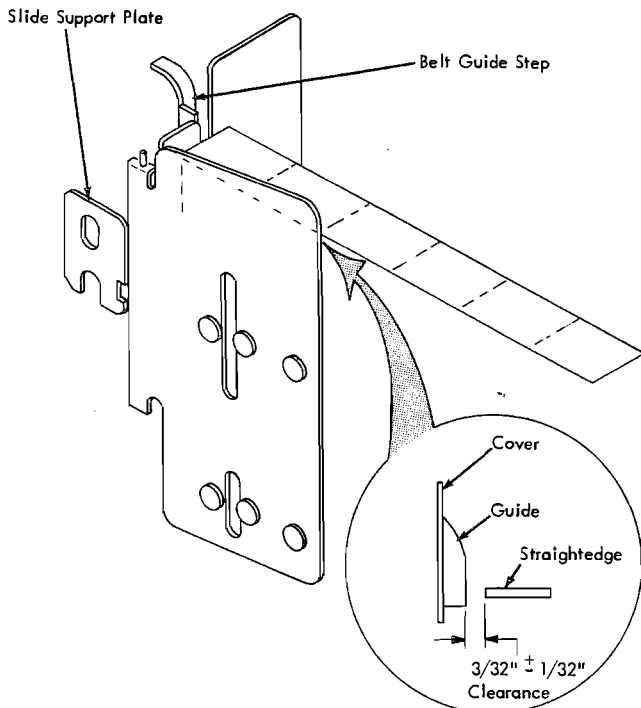

Figure 14. Tractor Door Opening Limit
2. Adjust the slide support plate to limit the tractor door open position. Place a straight edge against the belt-guide step perpendicular to the tractor guide plate as shown in Figure 14. Adjust the slide support plate to obtain $\frac{3}{32}$ " \pm $\frac{1}{32}$ " clearance between the door and the straight edge. Be sure to maintain proper belt tension when tightening the plate holding nut.